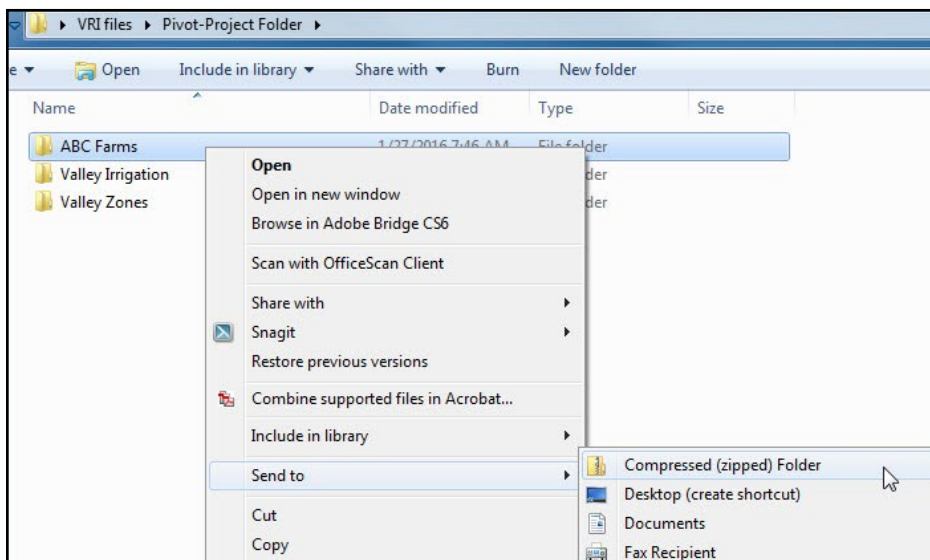

Figure 39-2
2. The second and preferred method for transfer is to exchange the entire ABC Farms folder. An easy way to do that is to Zip the folder with a zip program (most computers are equipped with the needed program). Right click on the file and a dropdown menu will appear select **Send to**, then choose **Compressed (zipped) Folder**. Figure 39-2